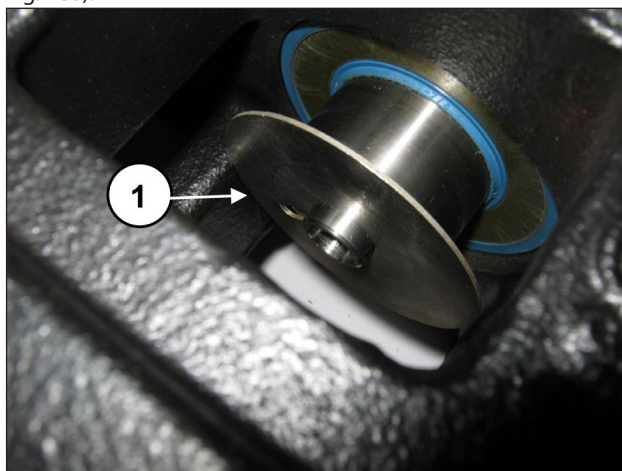

Fig. 180
Position the spray hood in the piston guide housing (pos. ①, Fig. 180).